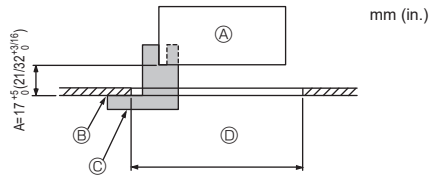
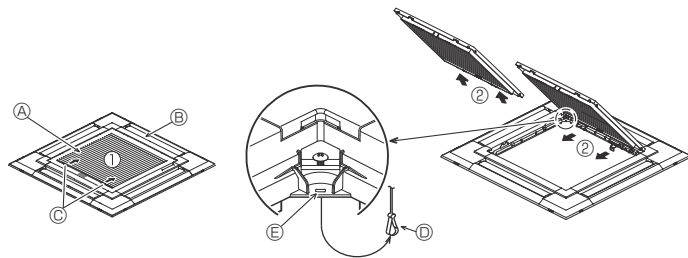
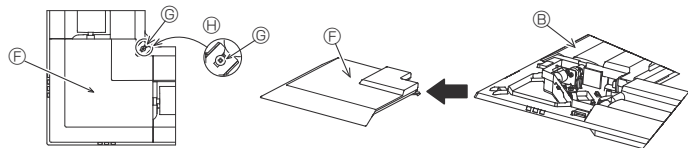

Fig. 6-2
Fig. 6-3
Fig. 6-4
①	Grille	1	950 × 950 (mm), 37-13/32 × 37-13/32 (in.)
②	Gauge	1	Divided into 4 parts
③	Screw (4 × 16)	1	For PLFY-EL·NEMU-A
④	3D i-see Sensor corner panel	1	For PLFY-EL·NEMU-A
6.2. Preparing to attach the grille (Fig. 6-2)
- With the gauge ② supplied with this kit, adjust and check the positioning of the unit relative to the ceiling. If the unit is not properly positioned relative to the ceiling, it may allow air leaks or cause condensation to collect.
- Ⓒ Gauge ② (inserted into the unit)
6.2.1. Removing the intake grille (Fig. 6-3)
- Slide the levers in the direction indicated by the arrow ① to open the intake grille.
- With the intake grille in the "open" position, remove the hinge of the intake grille from the grille as indicated by the arrow ②.
6.2.2. Removing the corner panel (Fig. 6-4)
- Loosen the screw from the corner of the corner panel. Slide the corner panel as indicated by the arrow ① to remove the corner panel.
[Fig. 6-3] [Fig. 6-4]